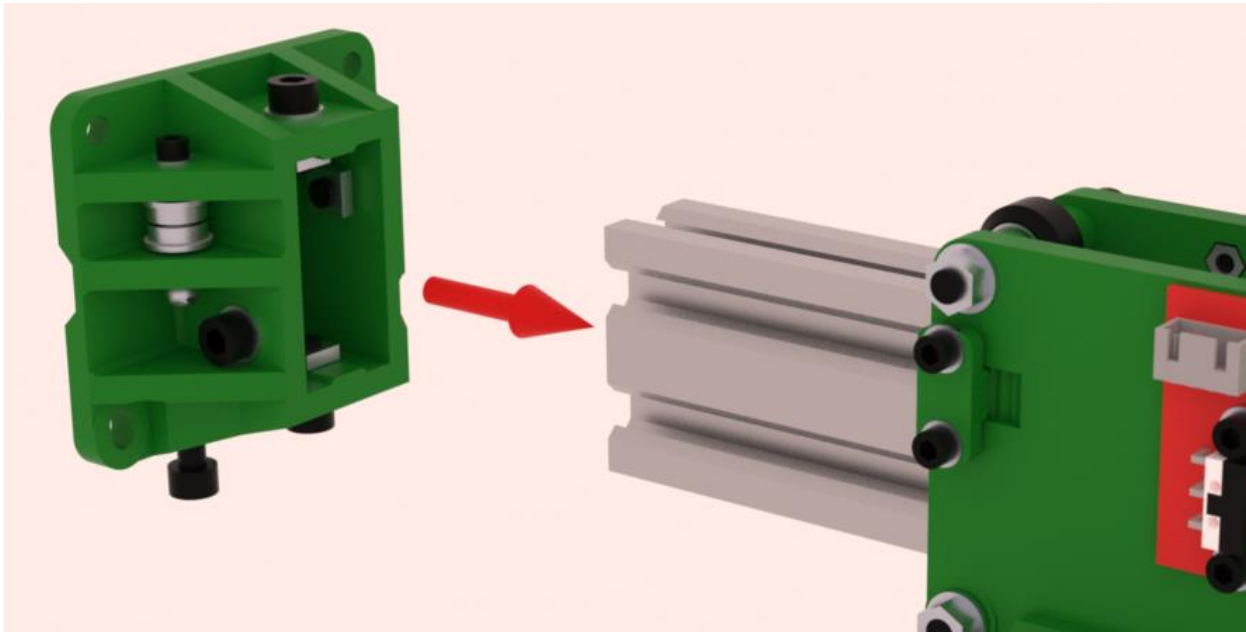

Figure 46: Right side H-bar end installation
- Attach the right H-bar end piece to the right end of rail R as shown in Figure 46.